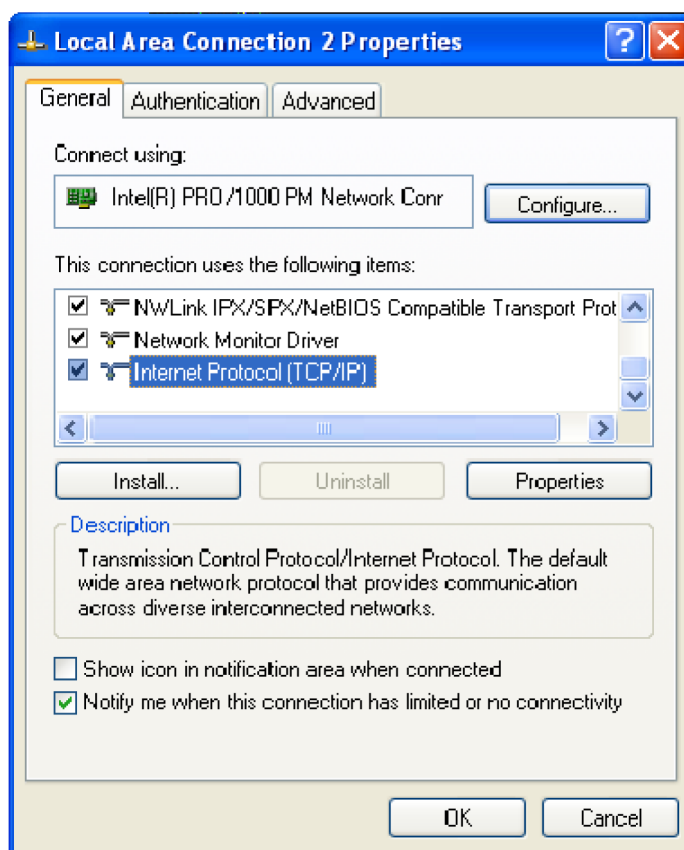

Figure 16: LAN Connection dialog box
4. Right-click the Local Area Connection icon that corresponds to your local LAN card and select **Properties**. The Properties dialog box appears. (See Figure 16.)